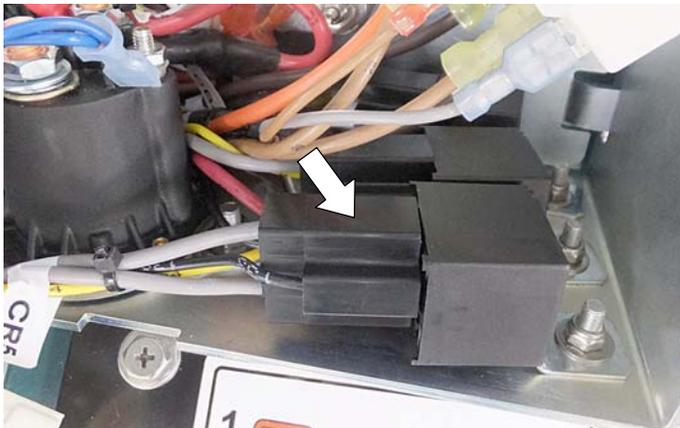

Fig. 8
- Connect the ec-H2O harness relay connector to new relay (Figure 8).